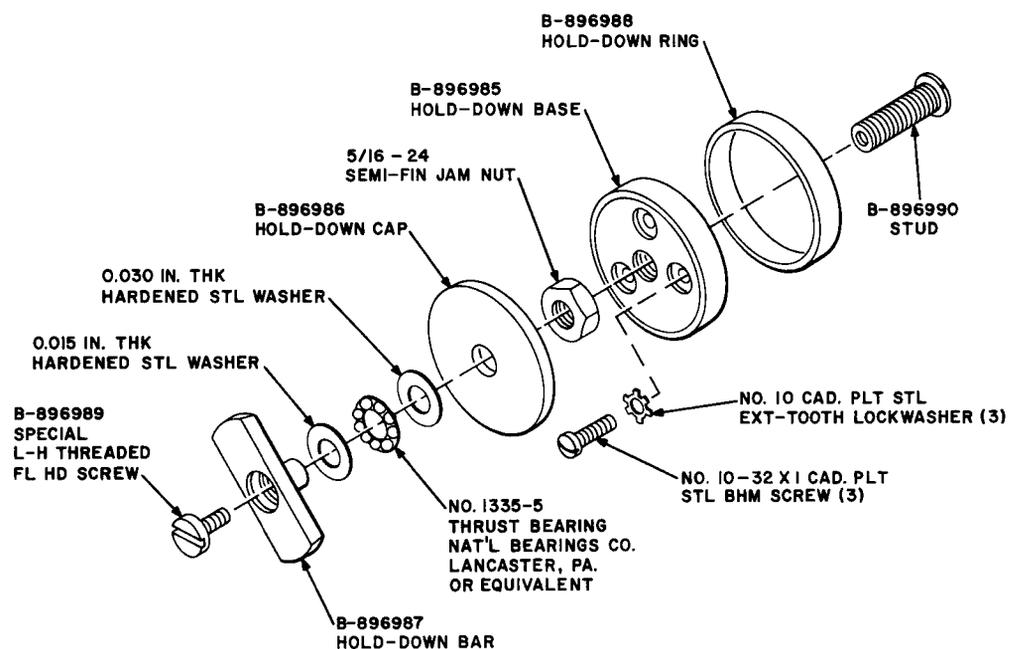

Fig. 10—KS-19125, L101 (ASA) Hold-Down Knob—Exploded View
the special left-hand threaded flathead screw (Fig. 10). Using the 5-inch E screwdriver, remove the screw by turning it clockwise while holding the hold-down bar.
- (6) If necessary, remove hold-down ring (Fig. 10) from hold-down base by sliding the ring off the base.
- (7) Using a clean KS-2423 cloth moistened with Freon (TF grade), clean end of stud to remove antiseize compound from the threads.
bottoms securely on hold-down base. (Refer to Fig. 10.)
(14) Refer to Fig. 10 and install hold-down cap, two washers, and thrust bearing. Apply KS-19094 L1 antiseize compound to approximately five threads nearest the end of the stud. Then thread hold-down bar onto stud, taking care that washers and thrust bearing are in proper alignment before tightening.
(15) Apply Loctite E sealant to threads of special left-hand threaded flathead screw. Install screw by threading it counterclockwise into the end of the stud while holding the hold-down bar. Take care not to mar the slotted area of the screw, and tighten to a torque of 18 to 20 inch-pounds using the APCO Mossberg torque screwdriver with a 3/8-inch screwdriver bit.